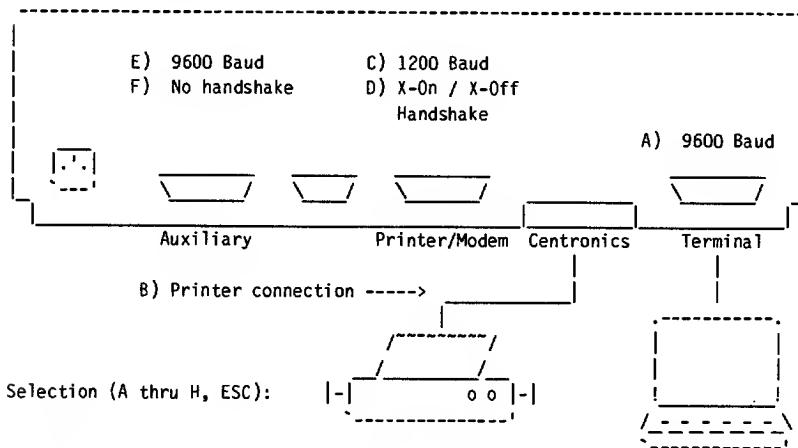

Figure D-3. The **SETUP** menu
2. At the "A>" prompt, type **setup** and press **RETURN**. The screen in Figure D-3 follows.